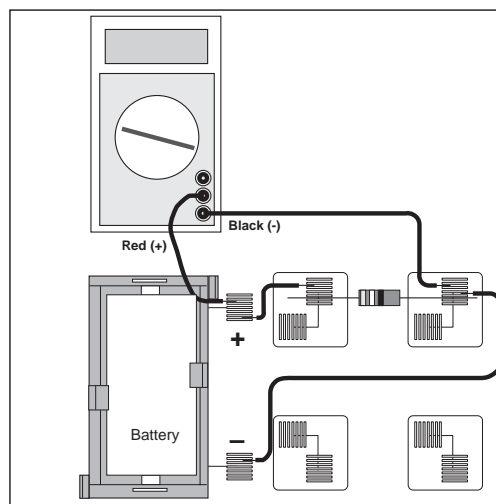

Figure 3.1b
- ③ Set the Multimeter to the 200 mA range, noting any special connections needed for measuring current. Connect the circuit and read the current that is flowing through the resistor. Record this value in the second column of Table 3.1.
- ④ Remove the resistor and choose another. Record its resistance value in Table 3.1 then measure and record the current as in steps 2 and 3. Continue this process until you have completed all of the resistors you have been given. As you have more than one resistor with the same value, keep them in order as you will use them again in the next steps.
- ⑤ **MEASURING VOLTAGE:** Disconnect the Multimeter and connect a wire from the positive lead (spring) of the battery directly to the first resistor you used as shown in Figure 3.1b. Change the Multimeter to the 2 VDC scale and connect the leads as shown also in Figure 3.1b. Measure the voltage across the resistor and record it in Table 3.1.
- ⑥ Remove the resistor and choose the next one you used. Record its voltage in Table 3.1 as in step 5. Continue this process until you have completed all of the resistors.